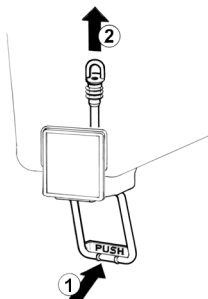

figure 2
**5 Pinch tube faucet:** push the dispensing handle (1) and take the pinch tube off from its
seat (2) (see figure 2).